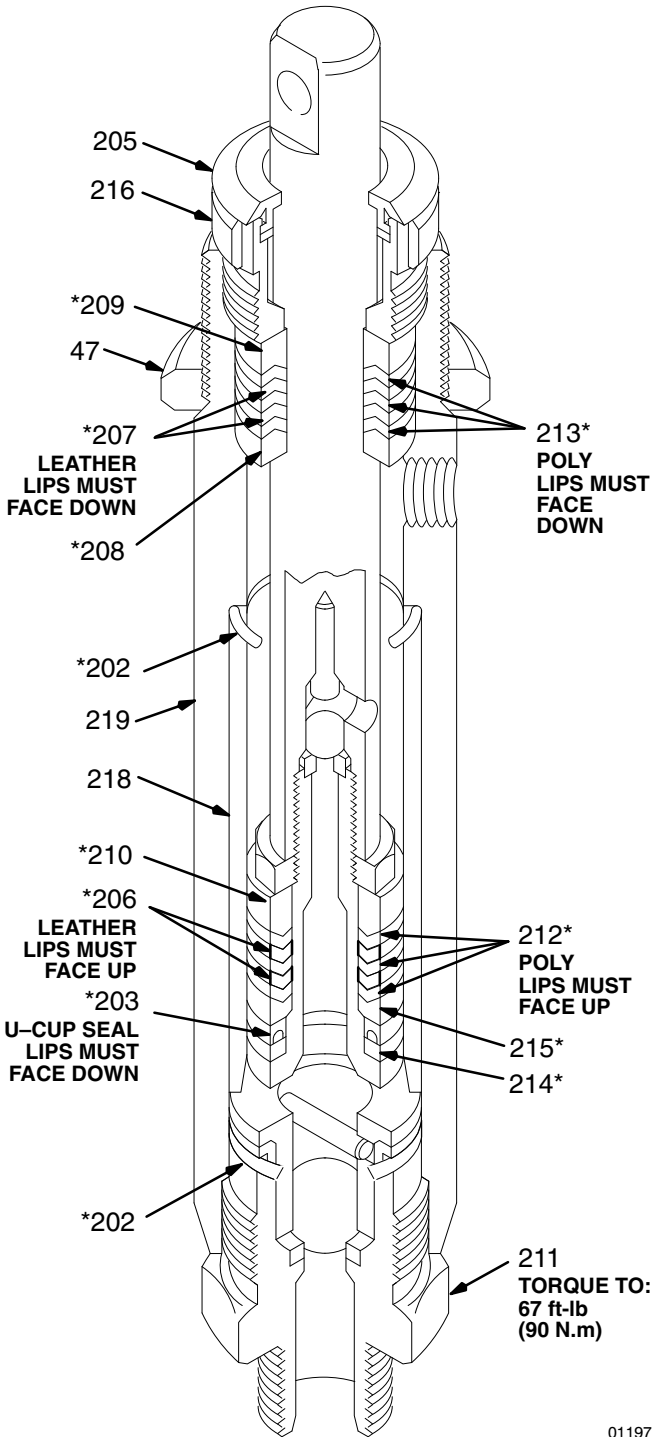
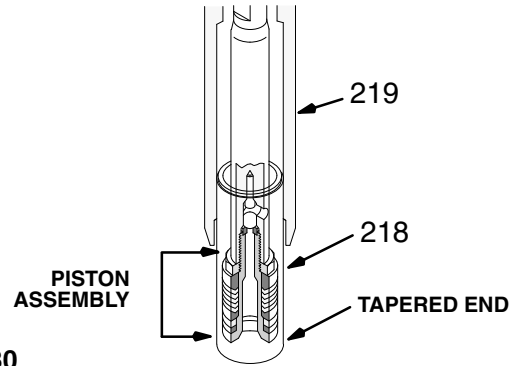

Fig. 29
Fig. 30
8. Stack the male gland (208\*), alternate packings (213\*,207\*), and female gland (9) into the top of the cylinder (219). See Fig. 29.
9. Install the packing nut (216) and plug (205), but leave loose for now. See Fig. 29.
**NOTE:** The tapered end of the sleeve is the bottom of it. See Fig. 30.
11. Place a new o-ring (202\*) firmly in the cylinder groove. See Fig. 29
12. Slide the sleeve/piston rod assembly **INTO THE BOTTOM OF THE CYLINDER**. This is to prevent packing damage during reassembly. See Fig. 30.
13. Screw down the cylinder locknut (47) until it is finger tight at the bottom of the external cylinder threads.
14. Place the flats of the intake valve (223) in a vise. Install a new o-ring (202\*). Screw the pump cylinder into the valve. Torque to 67 ft-lb (90 N.m). See Fig. 29.